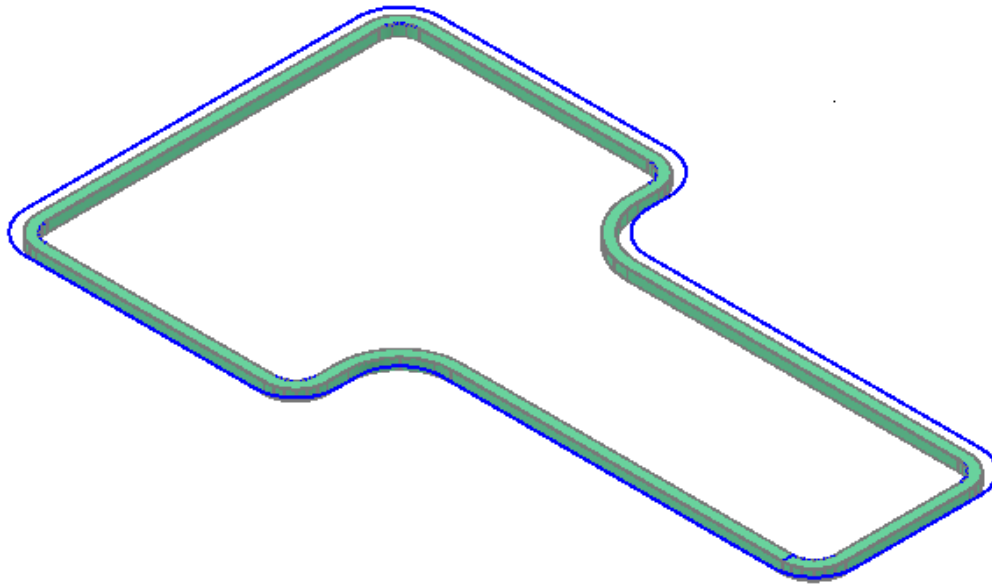

Figure Step 19
Step 19 Using the SWEEP command, sweep the 2.5 inch closed pline using the inner pline as the path. (Figure Step 19)